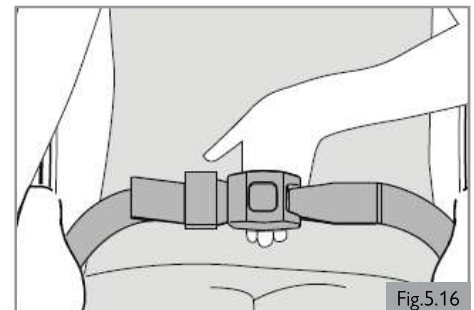

Fig.5.16
1. Adjust the lap belt to suit, leaving no more than a hand's width gap for comfort and safety. (Fig. 5.16)